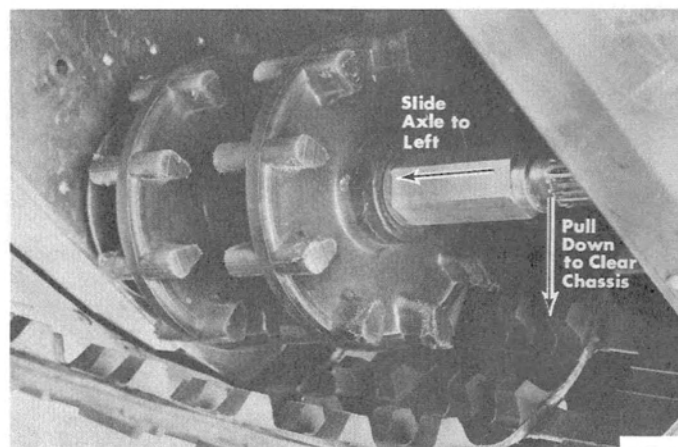

Figure 10. Removal of Front Axle
5. Slide front axle to left and pull right side of axle down to clear chaincase and chassis. (Figure 10)